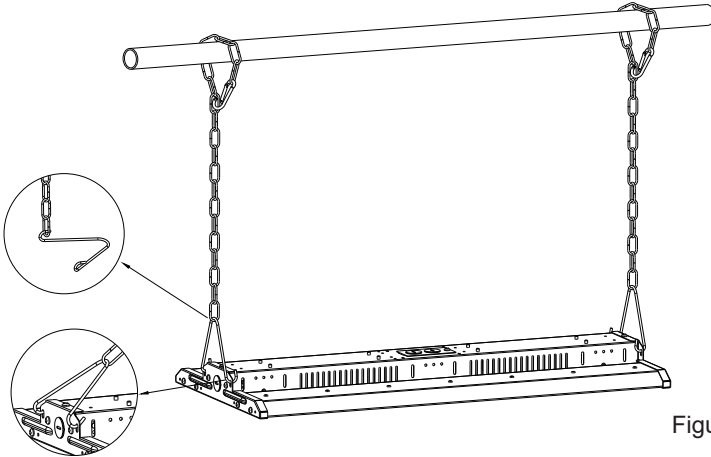

Figure1
Step 1: Hook up the chain (figure 1)
Step 2: Connect the chain with fixture (figure 1)
Step 3: Fix the chain on the rail, adjust the chain length as per your needs; (figure 1)